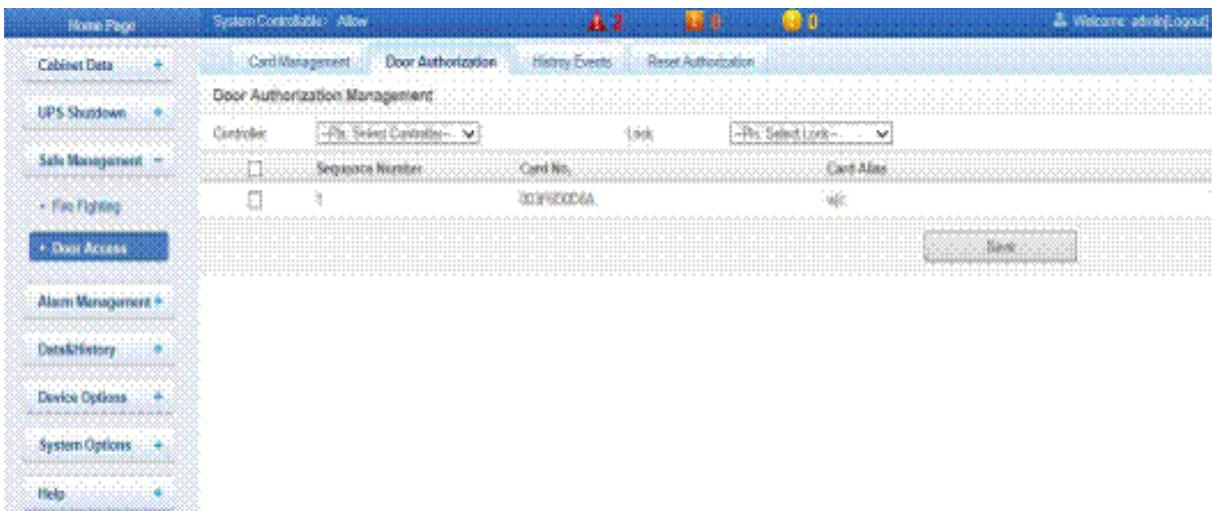

Figure 4-64 Door Authorization function
- » The next tab is Door Authorization wherein the controller and lock can be selected for the specific card followed by clicking on Save which helps store the card for Door Authorization. Figure 4-64 helps in the Door Authorization management of the card.